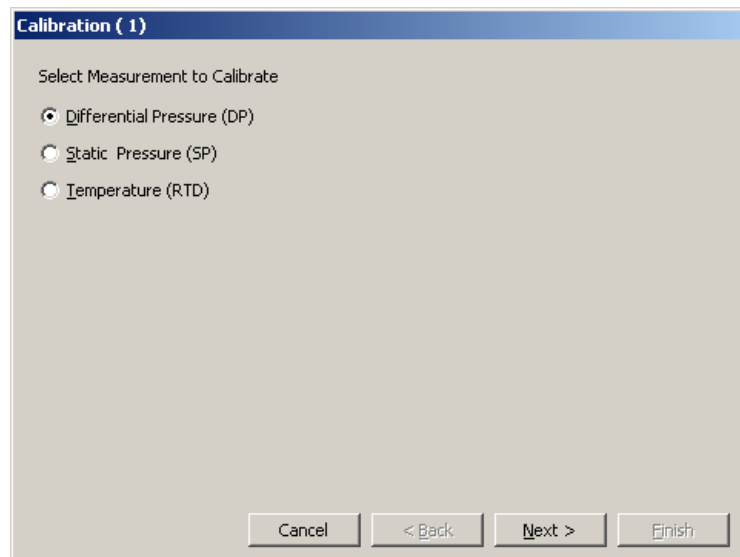

Figure 43. Calibration Dialog
- ◆ If you select **Yes, calibrate another measurement** and then click the **Next** button, the Calibration dialog is displayed (see Figure 43).